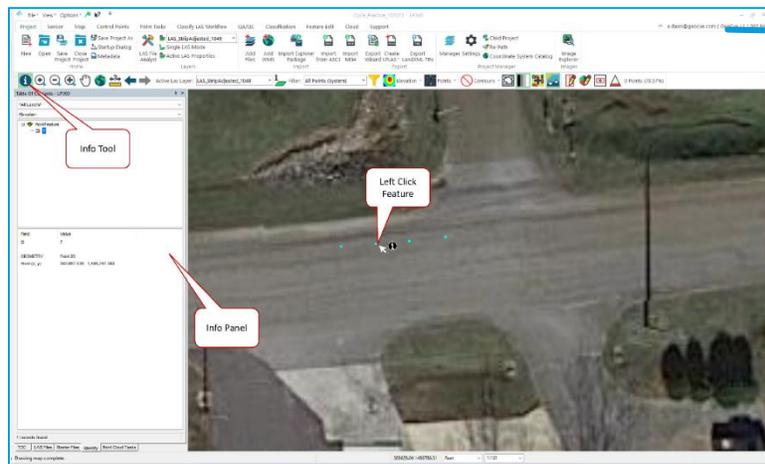

Figure 47 - Inspecting a Feature
- Photos Layer** – This layer contains information about each photo and photos can be viewed in Feature Analyst. The icons in the Map View represent the location each photo was taken, using the navigation grade solution (real-time) of the TrueView Position and Orientation System (POS). If your sensor has multiple cameras, you will see an icon for each photo from each camera. Thus, if you zoom in on the display, you will usually see photo icons close together. This occurs because TrueView sensors with multiple cameras usually fire the cameras at approximately the same time. You can quickly *inspect* information about any *feature* in LP360 by selecting the Info tool (the “I” icon on the main toolbar), left clicking the item you wish to inspect and viewing the attribute data in the Info pane of the TOC. This is illustrated for a photo in Figure 47.